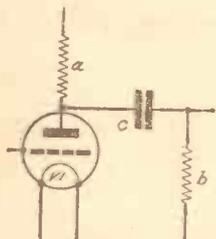

Fig. 9.—R.C. coupling.
L.F. Stages.—Here we come to another part of the receiver which has several variations, chief of which are R.C. and transformer coupling, circuits of which are shown in Figs. 9 and 10.
R.C. coupling (Fig. 9).—Complete silence probably means a broken resistance (a), bad quality and crackles, faulty resistances (a) and (b), but most likely a leaky coupling condenser (c). If a leaky condenser is suspected, replace with a mica condenser.